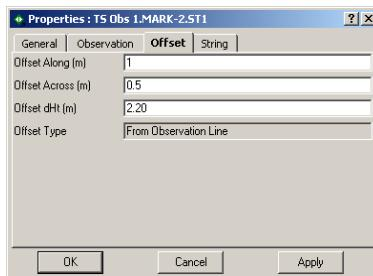

Figure 4-70. TS Properties – Offset Tab
2. On the **Properties** dialog box, click the *Offset* tab (Figure 4-70).